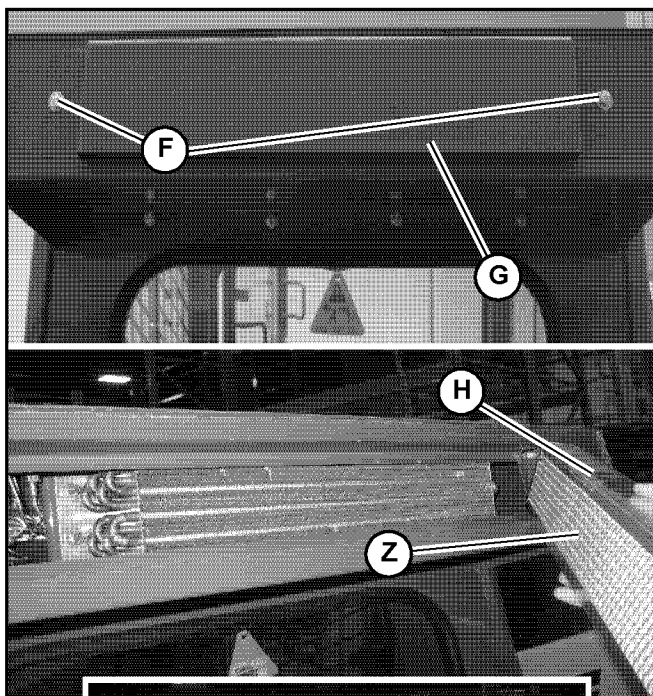

Fig. 156 – Air Conditioning Outside Air Intake Filter
2. Remove hardware (F, Fig. 156) securing the outside air filter cover (G). Remove cover (G).
3. Remove old air filter (H)
4. Install new air filter (H), positioned so the side with the metal grate (Z) faces in.
5. If necessary, apply foam strips (I) to the outside edges of new air filter to provide a good seal.
6. Replace cover (H) and secure with hardware (F)